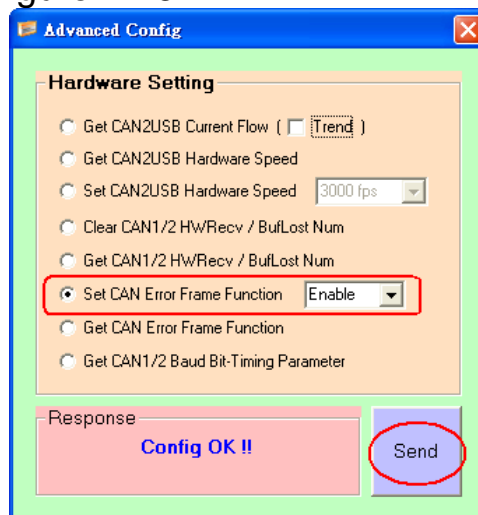

Figure 7-15-1 Enable “CAN Error Frame” Function
(1) Run “I-7565-H1/H2” utility and connect to I-7565-H1/H2 module.
(2) In “**Advanced Config**” screen, click the “**Set CAN Error Frame Function**” item and choose “**Enable**” option. Then click “**Send**” button to enable the function like Figure 7-15-1.